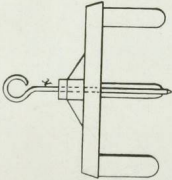
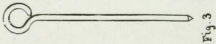
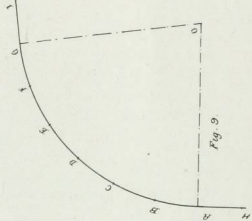

Fig. 1
Fig. 3
Fig. 4
Fig. 4 shows an elevation and Fig. 5 a plan of the tool. It is all made of steel, strong and light, weighing about 7 pounds. The center casting (C) has a hole bored through its center (see Fig. 8) into which fits center pin (Fig. 3). The raised castings (b) on either end of gauge carry each a nickel-plated graduation plate shown in Fig. 7. There is a pair of gauge lugs shown in Figs. 4 and 6 bolted under the gauge bar (A) at either end. The center casting (c) has a collar (d) around which two brass end pieces (e and f) can freely rotate (see Fig. 8). The measuring wires which are used as chords, are attached to these by suitable swivel hooks. The No. 1 curve gauge is graduated for 25-foot chords, and has a capacity up to 24° curves. The free end of the wire terminates in a ring which fastens to an end pin (K) shown in Fig. 1. A graduation on the end piece in connection with a movable rider (R) shown in figure 8 makes it easily adjustable for any curve. For instance, if the curve under consideration is 12° the sliding rider (R) is moved until edge cuts graduation at 12°. End pins (K) which are just like center pin shown in Fig. 3, pass through hole in triangular chair when the gauge is in use (see Figs. 1 and 2). Reels are provided to wind up the wire chords, and the whole is securely placed in a well made wooden box, which may be locked, and which is convenient to carry along on hand or inspection car.